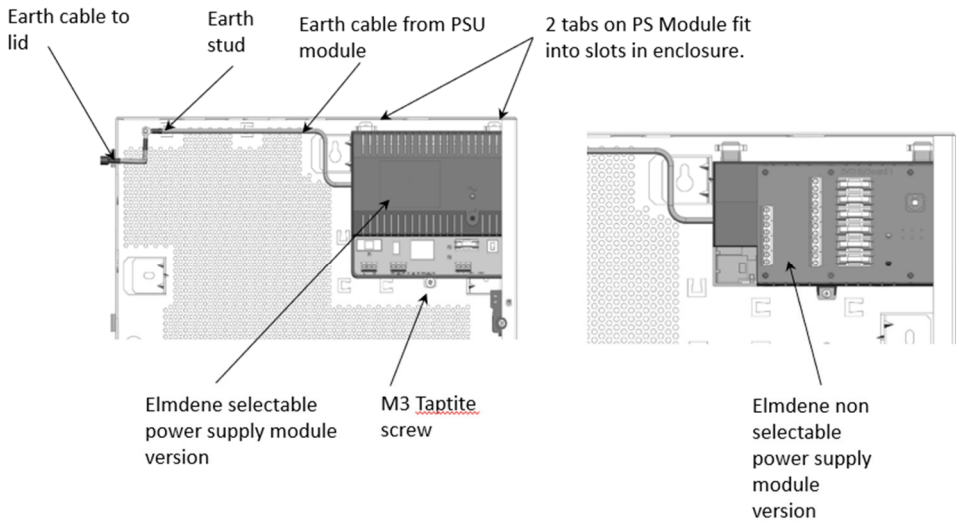

Figure 3: PSU types, position and Earth cable
- The installation procedure is the same for each PSU type in each enclosure. The PSU is mounted to the top right hand side. Two slots and a fixing hole are present to secure the PSU in position (Figure 3)